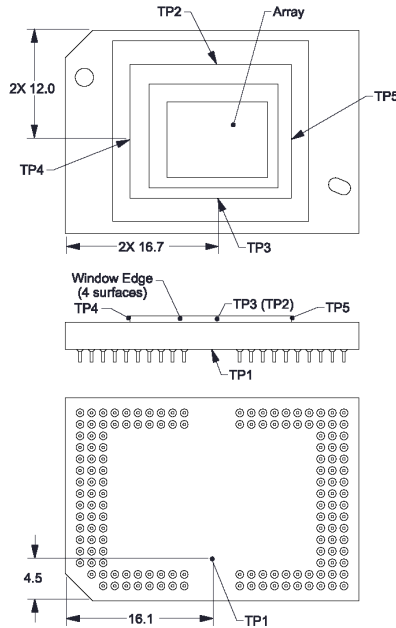

図 7-4. Thermal Test Point Location
Achieving optimal DMD performance requires proper management of the maximum DMD case temperature, the maximum temperature of any individual micromirror in the active array, the maximum temperature of the window aperture, and the temperature gradient between the case temperature and the predicted micromirror array temperature (see Figure 7-4).
The DMD is designed to conduct absorbed and dissipated heat to the back of the Series 450 package where it can be removed by an appropriate heat sink. The heat sink and cooling system must be capable of maintaining the package within the specified operational temperatures, refer to Figure 7-4. The total heat load on the DMD is typically driven by the incident light absorbed by the active area; although other contributions include light energy absorbed by the window aperture and electrical power dissipation of the array.
The temperature of the DMD case can be measured directly. For consistency, Thermal Test Point locations TP1 – TP5 are defined, as shown in Figure 7-4.
Micromirror array temperature cannot be measured directly; therefore it must be computed analytically from measurement points (図 7-4), the package thermal resistance, the electrical power, and the illumination heat load. The relationship between micromirror array temperature and the case temperature are provided by 式 1 and 式 2:
- T_{Ceramic} = Ceramic temperature (°C) (TC2 Location 図 7-4)